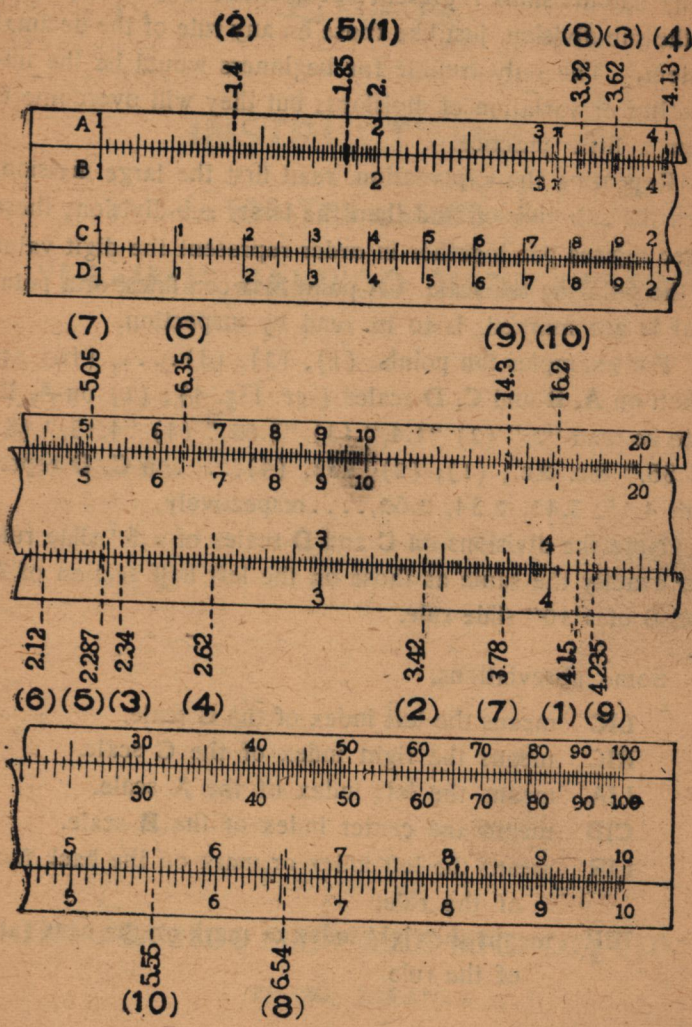

Fig. 1.
For examples ten points, (1), (2), (3) , (10) are taken on **A**, **B** and **C**, **D** scales (see. Fig. 1): (1) on **A**, **B**, is to be read "2," (2) "1.4," (3) "3.62," (4) "4.13," (5) "1.85," &c. &c.; (1), (2), (3), (4), on **C**, **D** represent 4.15, 3.42, 2.34, 2.62, respectively.